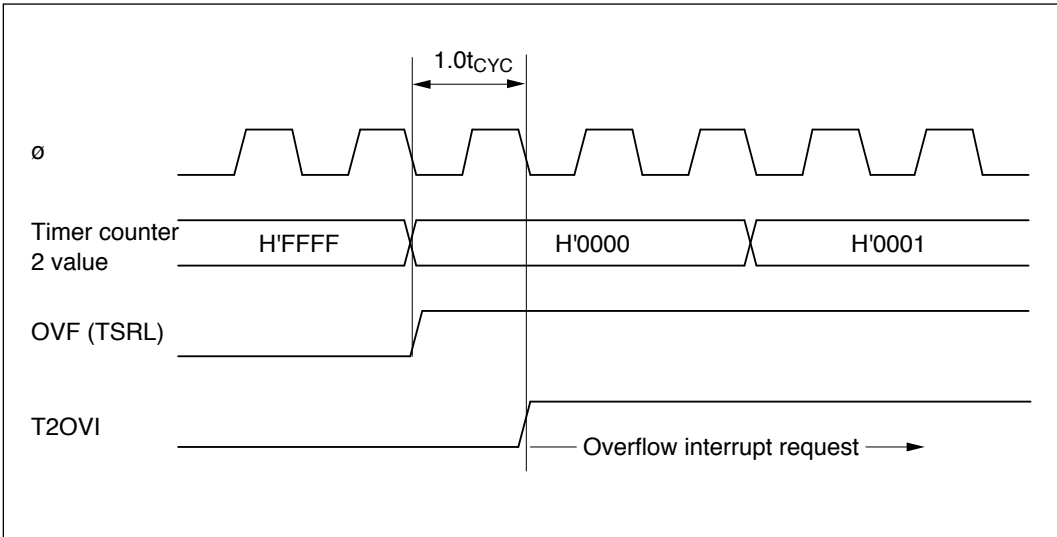

Figure 10-48 Timing from Counter Incrementation to Overflow Interrupt Request
(3) Overflow Timing: Figure 10-48 shows the timing from counter increment to generation of an overflow interrupt request. When the value of timer counter 2 returns from H'FFFF to H'0000 the IPU sets the overflow flag (OVF). The interrupt request (T2OVI) is generated $1.0t_{CYC}$ after OVF is set.